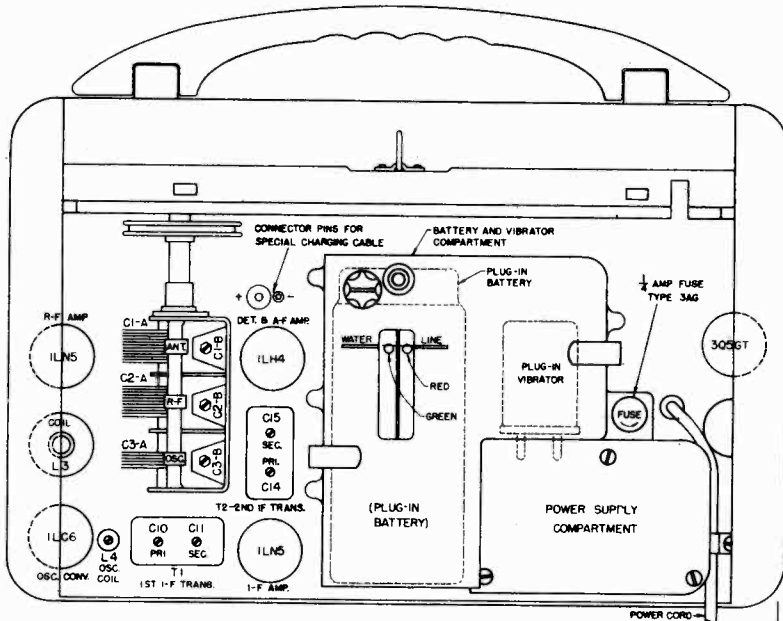

Fig. 3. Tube and Trimmer Location
1. *General.*—The alignment procedure is given in table for convenience. Reference is made to Fig. 3 for the trimmer locations. The low side of the signal generator should be connected to the chassis of the receiver for i-f alignment; the high side should be connected as indicated in the Alignment Chart. A meter or some other suitable indicating device must be connected to the output of the receiver. Two methods for connecting an output meter are given in later paragraphs.
A charging cable is available, which provides a convenient means of charging the radio battery from an automobile or 6-volt storage battery. The cable plug is inserted over the two pins provided, see Fig. 3, and the plug and socket on the other end of the cable are connected to a 6-volt supply. Complete installation instructions are provided with each cable.
2. Remove the three flat-head screws on the power supply compartment cover (see Fig. 3).